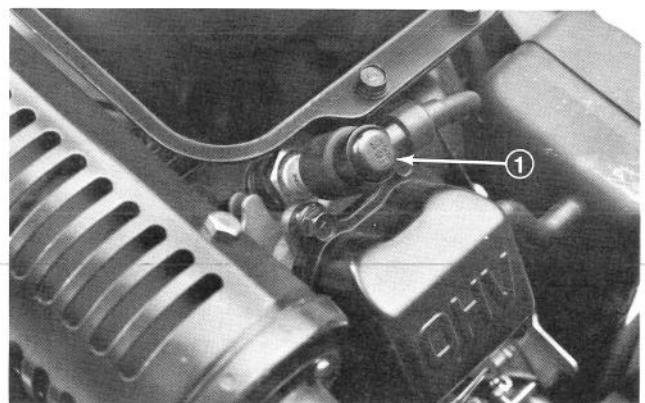

Figure 33
2. Clean around spark plug and remove plug from cylinder head (Fig. 33)